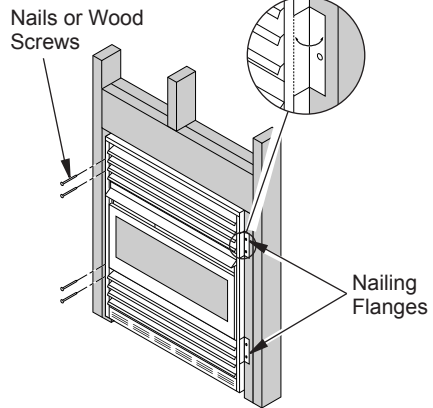

Figure 12 - Attaching Fireplace to Wall Studs
- Bend four nailing flanges on outer casing with pliers (see Figure 12).